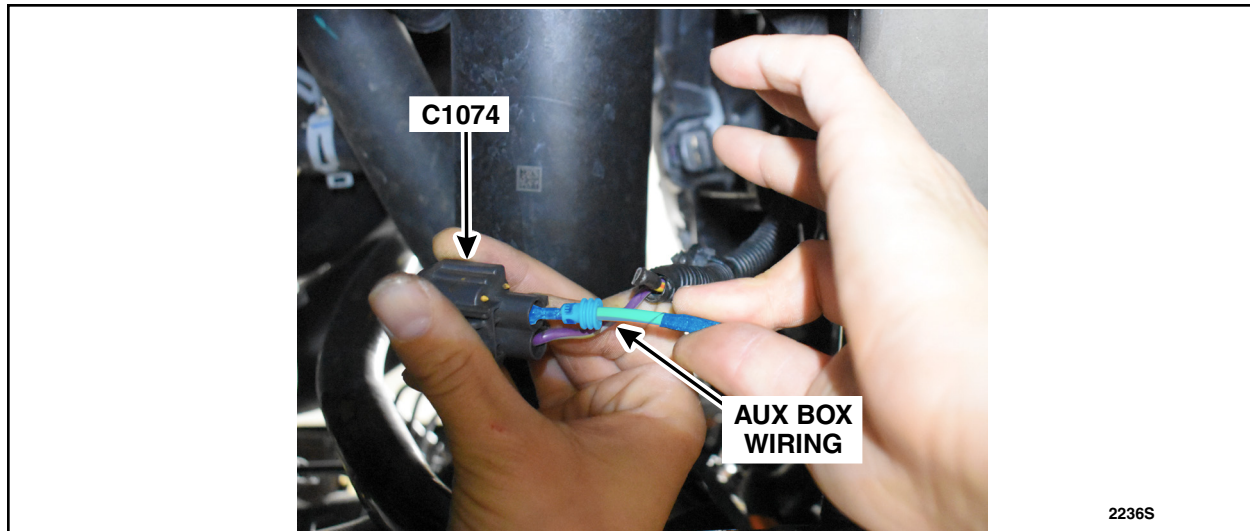

FIGURE 25
29. Install circuit from aux box wiring assembly, into the empty cavity of the C1074 connector. This circuit is identified with a yellow wire with an orange tracer. Replace connector cover. See Figure 25.